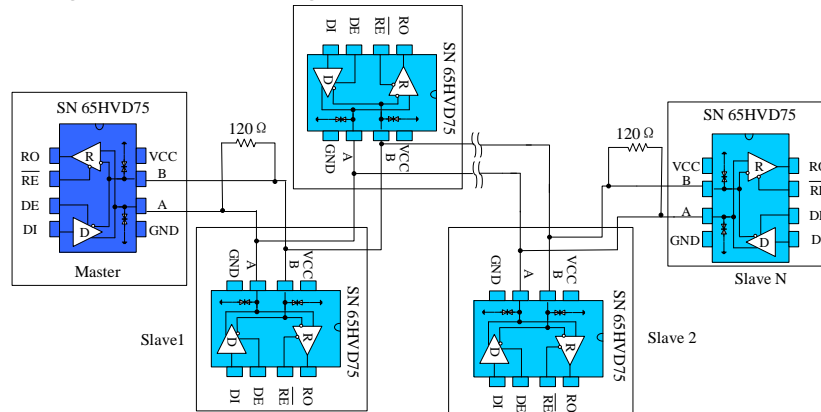

Figure10 Hand in hand RS485 half duplex communication network
3.2 Hand in hand Networking: also known as daisy chain topology, is the standard and specification of RS485 bus wiring, and is the RS485 bus topology recommended by TIA and other organizations. The wiring mode is that the main control equipment and a plurality of slave control equipment form a hand-held connection mode, as shown in Figure 10, and the hand-held mode is no branches. This wiring mode has the advantages of small signal reflection and high communication success rate.